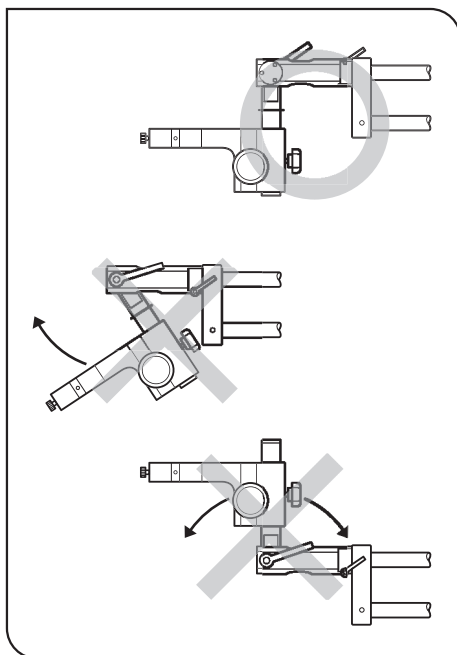

Fig. 13
4. When the mounted microscope has a TV camera or photography unit mounted on it, do not tilt the microscope body. As the microscope is heavy and the center of gravity of the system is located high, loosening the clamping lever may cause the microscope to rotate suddenly, causing damage to the TV camera, photography unit or microscope body. (Fig. 13) (For the method of this operation, see page 13)